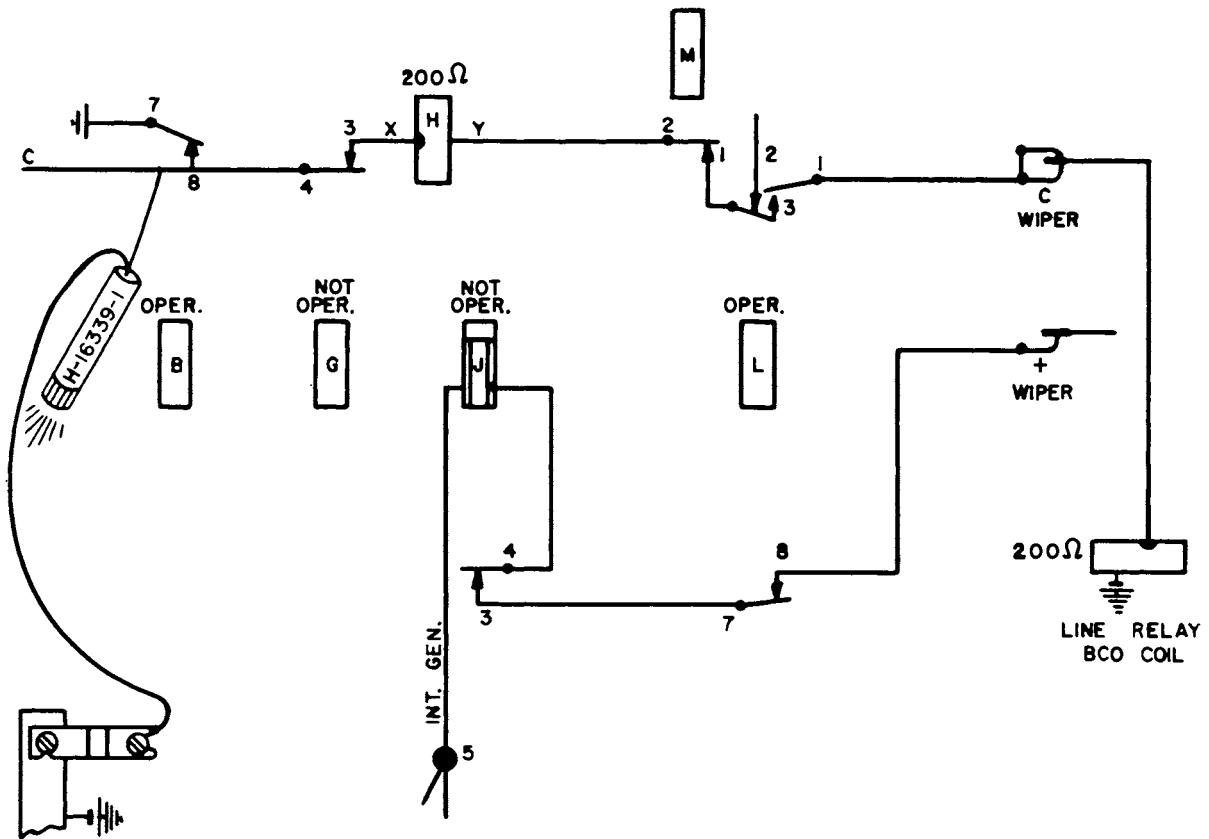

Figure 8. Locating an open d-c circuit with a test lamp.
- a. For an example of locating an open d-c circuit see figure 8. Clip the test lamp on a (-) battery fuse. With the pick on relay B spring 8, a lighted lamp indicates springs 7-8 making. A similar test shows relay G springs 3-4 also making. Proceed contact by contact until the lamp does not glow. This is the trouble point. The lamp lights dimly beyond point Y since (+) battery is now being supplied through 200-ohm winding of relay H. However, a dimly-lit lamp at relay L spring 3 and a dark lamp at relay L spring 1 locates the open circuit. If the presence of (-) battery through the 200-ohm BCO winding at relay L spring 1 is to be verified, clip the test lamp to